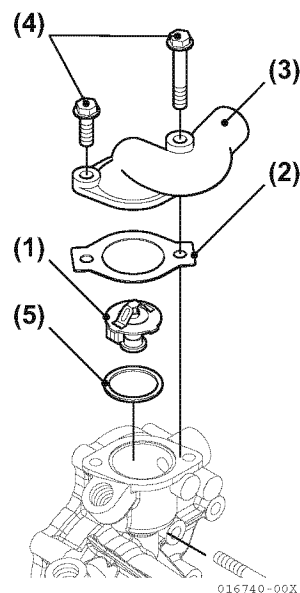

Figure 7-32
4. Remove two bolts (Figure 7-32, (4)).
5. Remove cover and gasket (Figure 7-32, (3), (2)).
6. Remove the thermostat (Figure 7-32, (1)).
2. Install new gaskets (Figure 7-32, (2), (5)) on coolant pump housing.